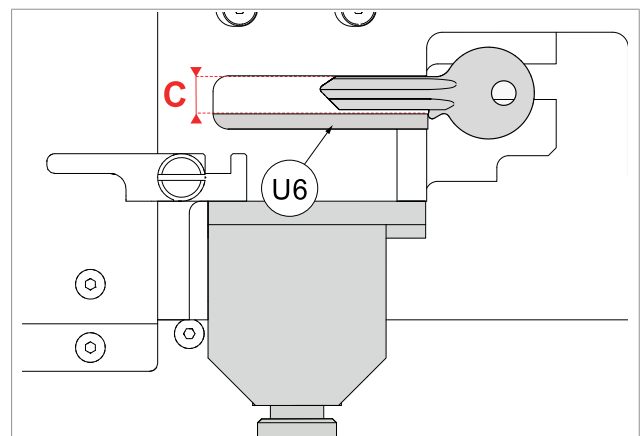

Fig. 108
- 3) Optimal width should be slightly bigger than the width of the stem. **Attention: do not exceed the height of the key stop (Fig. 108).**